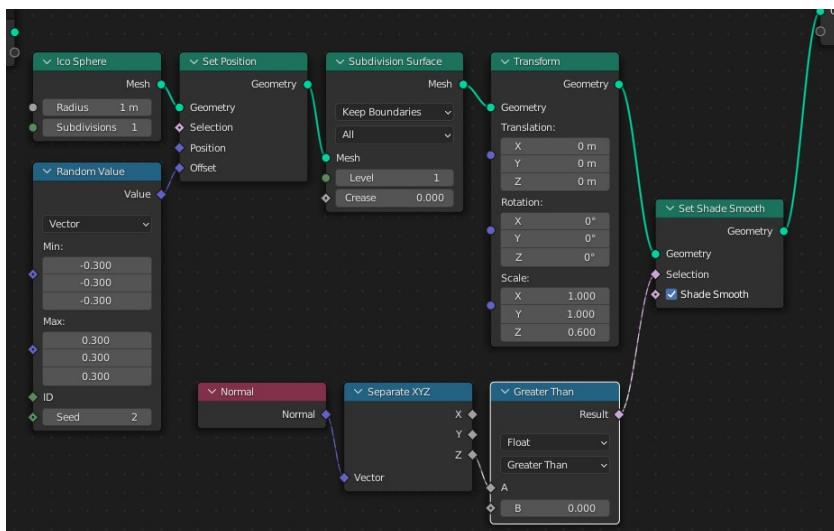

Figure 14-2 Applying selection criteria to a node
9. In order to create a selection criterion based on the normal direction you need to find whether the Z component of the vector is positive which you can do by adding two more nodes by selecting **Add ▶ Vector ▶ Separate XYZ** and **Add ▶ Utilities ▶ Compare** setting the Type to **Float**, Operation to **Greater Than** and the second input Value to **0.0**. Connect the Result output to the Selection input of the set shade smooth node. The layout is shown in Figure 14-2